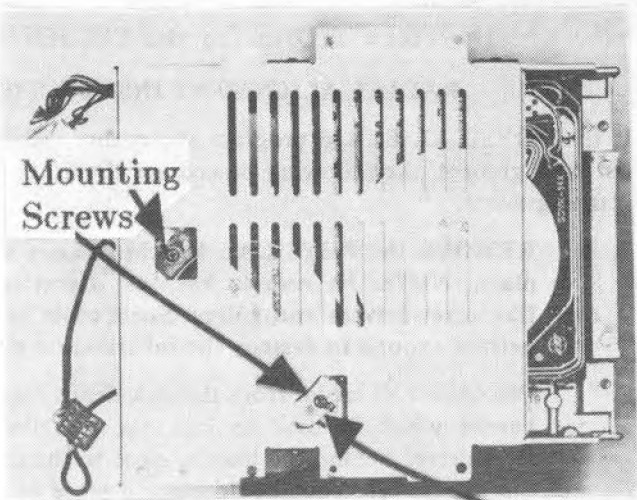

Figure 2 Put scratch mark here.
10. At long last you can lift the drive proper out of the enclosure. Turn it over and you will see the stepper motor and its mounting screws as shown in FIG.2.
13. Now you must reposition the motor in the direction and by the amount indicated in the screen displays. With the drive upside-down as shown in FIG.2, a clockwise rotation of the motor moves the R/W head toward the **INSIDE**. The amount of motion at the ear of the motor where the scratch was made should be approximately 10 times as great as that read off the screen display. So now you should loosen the two mounting screws just enough to allow you to turn the motor in the proper direction and by the estimated amount. Then retighten them.